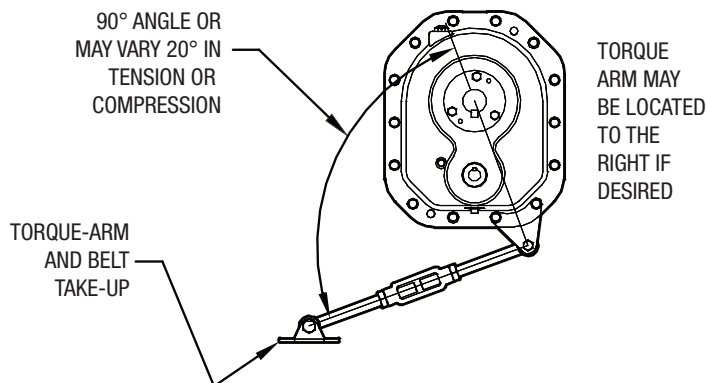

Figure 4 - Angle of Torque-Arm
- Install torque-arm fulcrum on a flat and rigid support so that the torque-arm will be approximately at right angles to the centerline through the driven shaft and the torque-arm anchor screw. (See Figure 4). Make sure that there is sufficient take-up in the turnbuckle for belt tension adjustment when using v-belt drive.